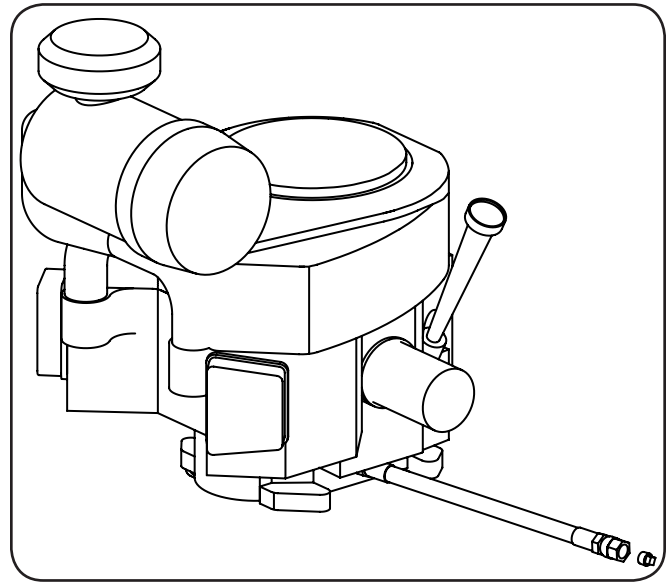

Figure 6-1
6. Locate the oil drain hose on the engine. See Fig. 6-1.
9. While holding the free end of the oil drain hose over the oil collection container, unscrew the square-head hose plug from the end of the hose. See Fig. 6-1. Drain the engine oil into the collection container.